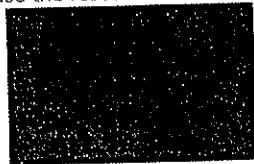

Fig. 5. Input type display
Start with the power to the meter off. Press and hold the trip reset button. While depressing the reset button apply power to the meter. The meter will enter calibration mode and the LCD will display the current input configuration (see Figure 5).
To select the signal type, press and release the reset button to increment the type number. Once the correct type is displayed, press and hold the reset button for two (2) seconds to select it. The LCD will then display the current calibration of the speedometer as shown in Figure 5.